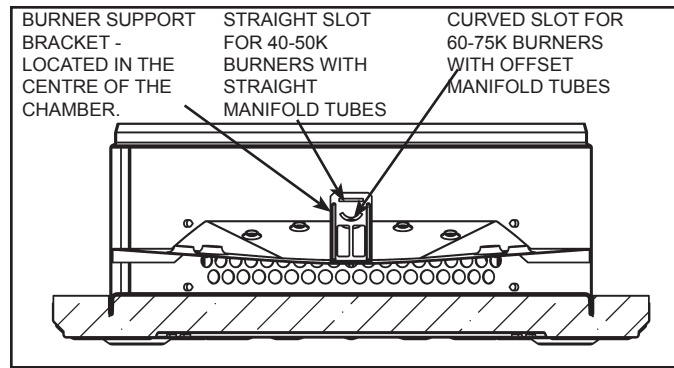

Figure 16. Manifold/Burner Assembly
1. Insert the manifold/burner assembly in the burner chamber compartment, making sure that the tip of burner manifold tab engages in the proper slot of the bracket. The tip end of the burner manifold **MUST** be placed in the slotted portion under the condensation pan to obtain proper installation. See **Figure 16** (page 14).
1. Insert the manifold/burner assembly in the burner chamber compartment, making sure that the tip of burner manifold tab engages in the proper slot of the bracket. See **Figure 16** (page 14).